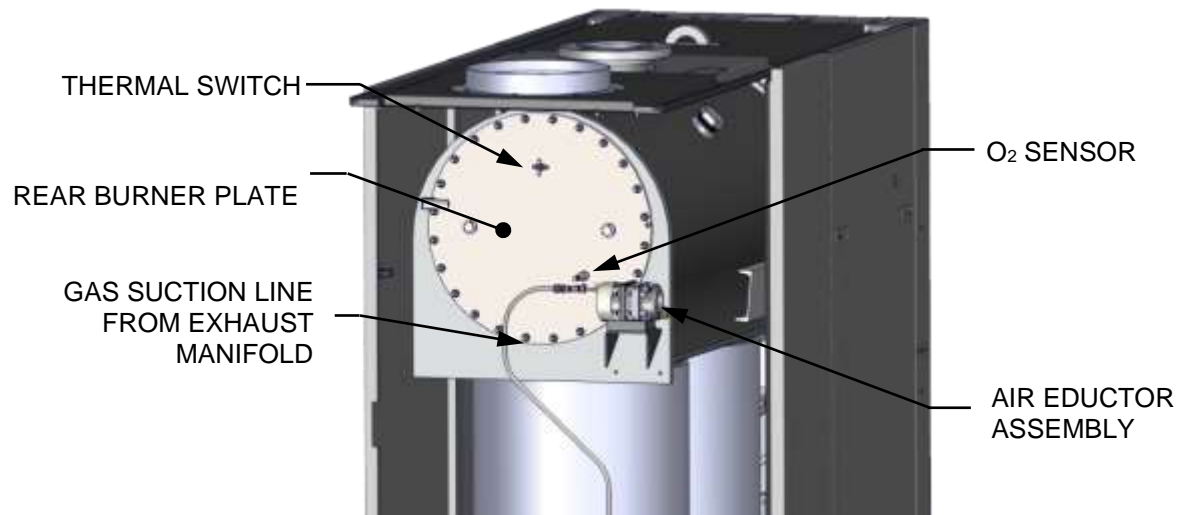

Figure 4-8: Partial Rear View Showing Rear Burner Plate
5. With the panels removed, the rear plate of the combustion chamber can be accessed as shown in Figure 4-8, below.
- Refer to Figure 4-8 and note the position of the rear refractory. Prior to refractory removal, mark as necessary using a permanent marker or tape.